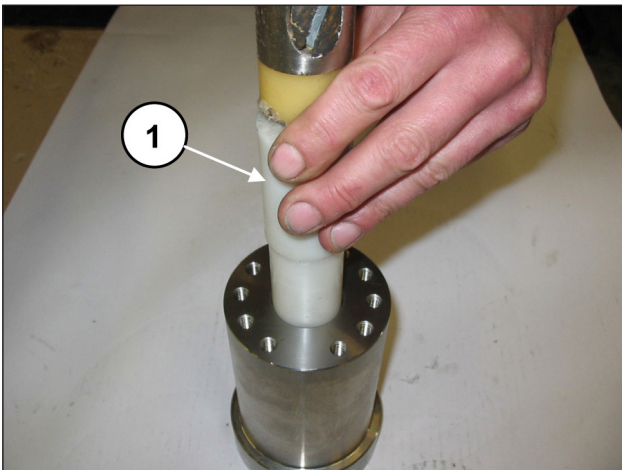
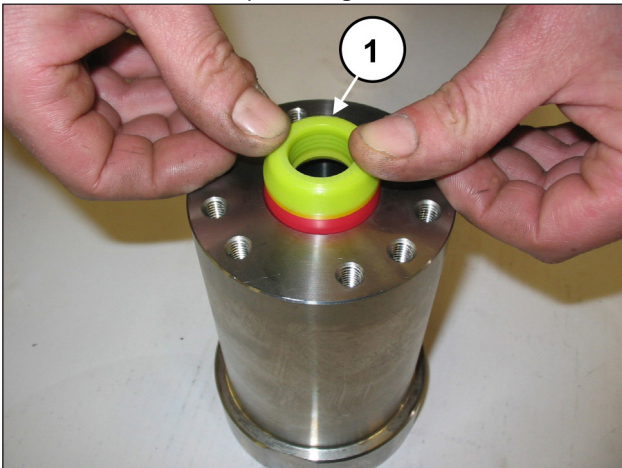
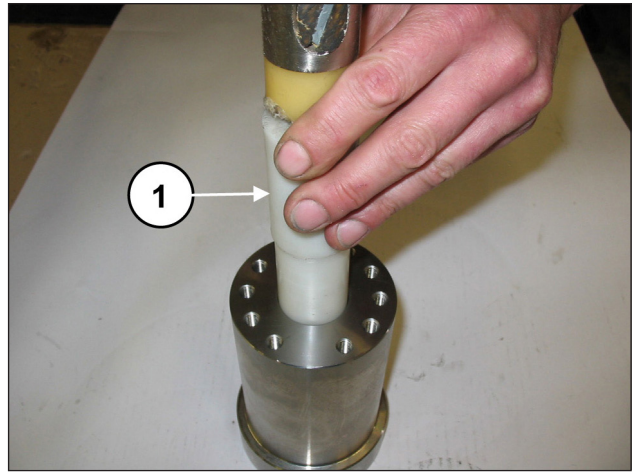

Fig. 117
Fig. 118
Fig. 119
**For the correct axial positioning of the bush, use the special tool (code 27921100 for SM14, code 27921200 for SM16, code 27921300 for SM18, code 27911200 for SM20, code 27911400 for SM22, code 27911500 for SM24) (pos. ①, Fig. 117 and Fig. 118).**
Insert the H.P. pack (high pressure) (pos. ①, Fig. 118); considering the slight interference between the seal and the liner, to avoid damage we advise using the tool (code 27673200 for SM14, SM16 and SM18, code 27673300 for SM20, for SM22 and for SM24) (pos. ①, Fig. 119).